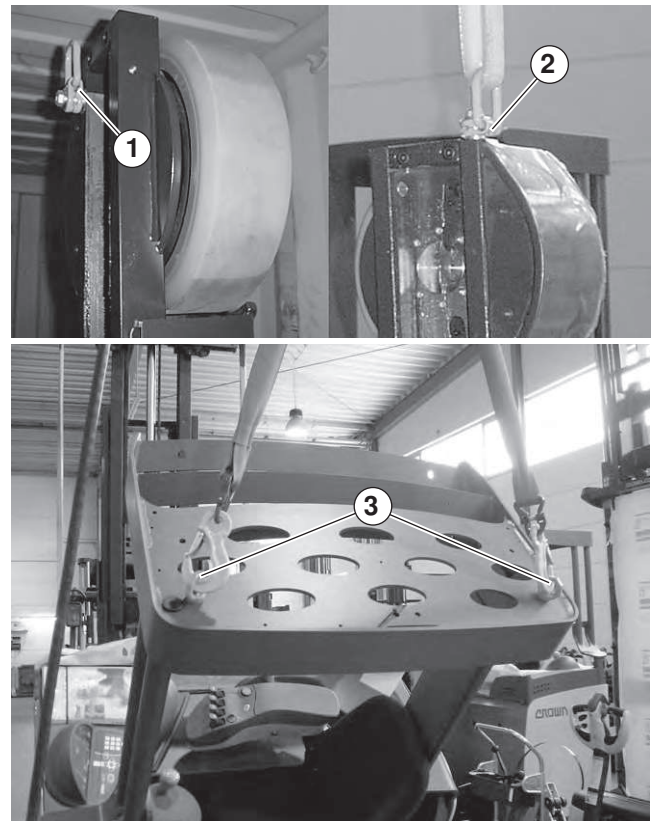

Fig. 8 Attaching the shackles and clevis
1. Attach the shackles and clevis as shown in Figure 8 to the outriggers and overhead guard.